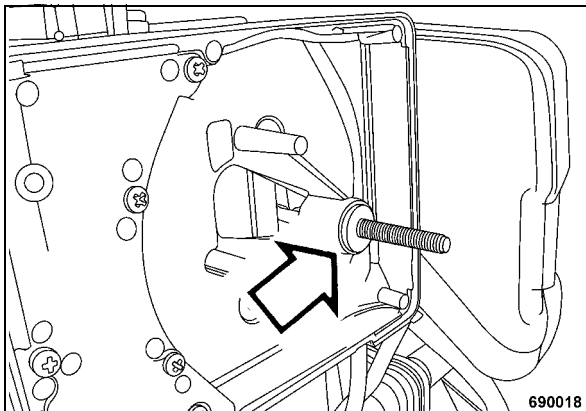

Fig. 46
- Check the rubber seal, if necessary replace the damaged rubber seal (Fig. 46).